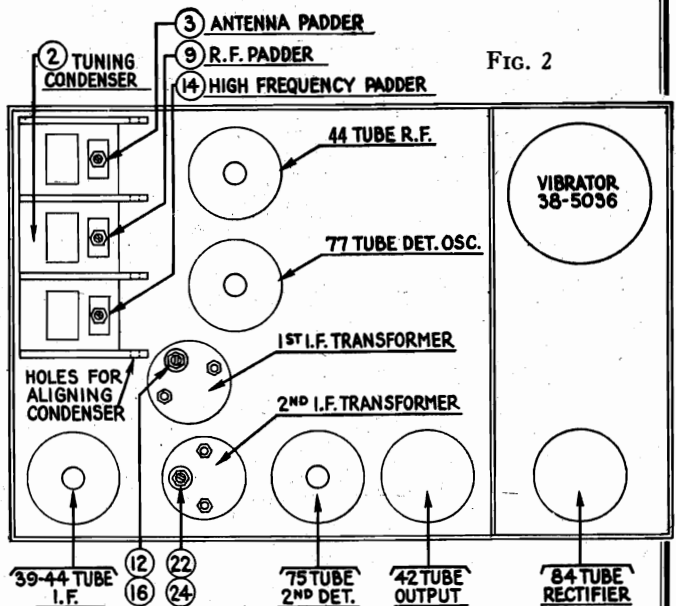

FIG. 2
Remove the speaker lid from the Receiver. Remove the grid cap terminal from the 77 tube (for location see Fig. 2).
the 77 tube. (See Fig. 2.) The output meter must be connected.
The padders ② and ④ are adjusted first (Figs. 2 and 3). Turn the adjusting screw ② all the way in. A metal screwdriver can be used for this. Then, with generator attenuator set so there is approximately half-scale reading, adjust the nut ④ with a fibre wrench for the maximum reading on the output meter.